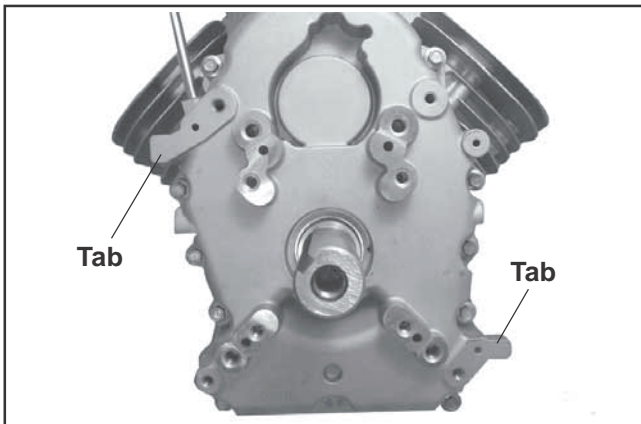

Figure 8-53. Location of Tabs.
2. Locate the two protruding tabs on the closure plate. Carefully tap to break the gasket seal. Do not pry on the sealing surfaces as this could cause leaks. Separate the closure plate from the crankcase. See Figure 8-53 and 8-54. Remove the old gasket.